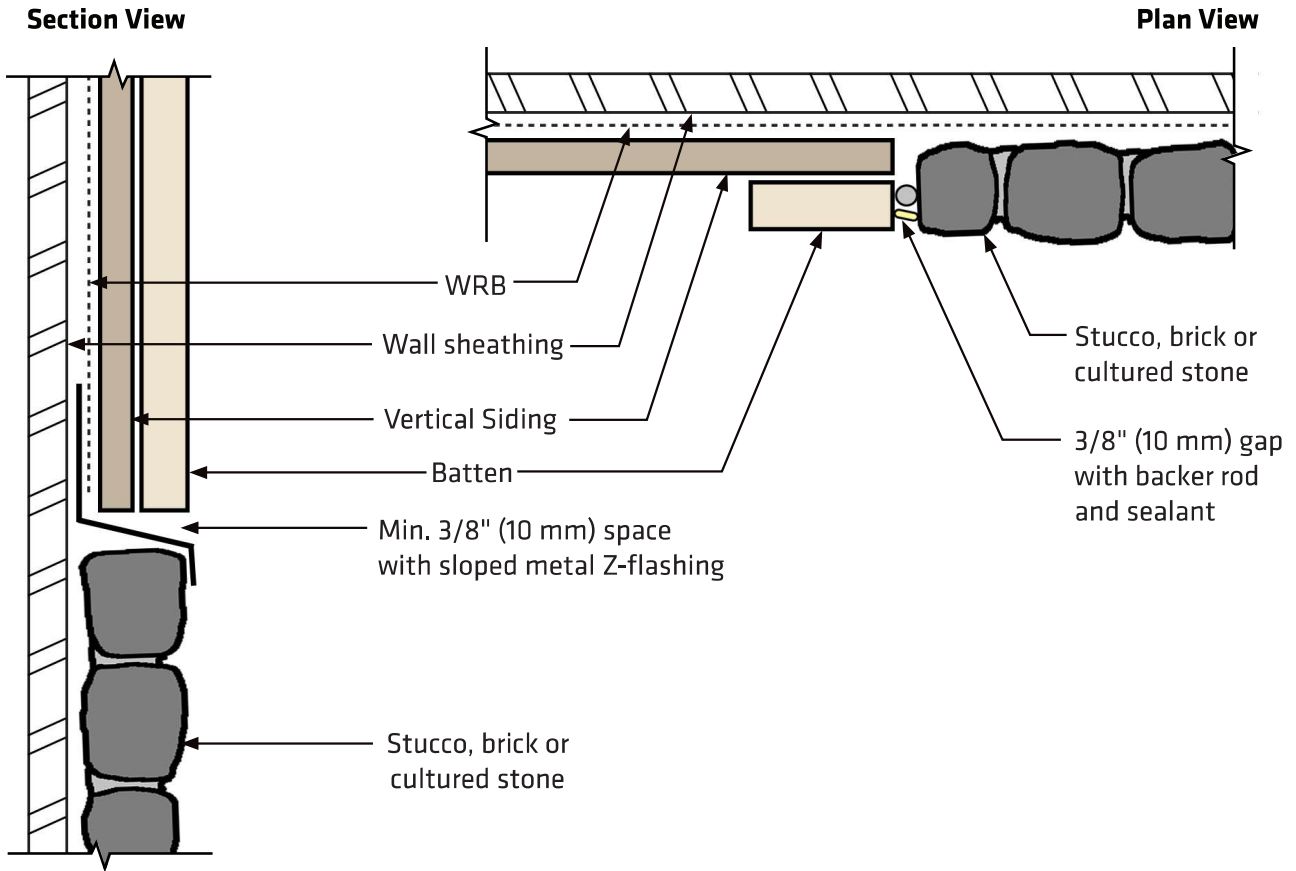

Figure 6
- When using SmartSide siding with other siding products like stucco, brick or cultured stone veneers it is important to use a capillary break so moisture absorbed into those veneers cannot be transferred into siding. Separate SmartSide siding from veneers with minimum 3/8 inch (10 mm) space for horizontal or vertical joints, use sealant. Backer rod may be required by the sealant manufacturer. *(See Figure 6)*